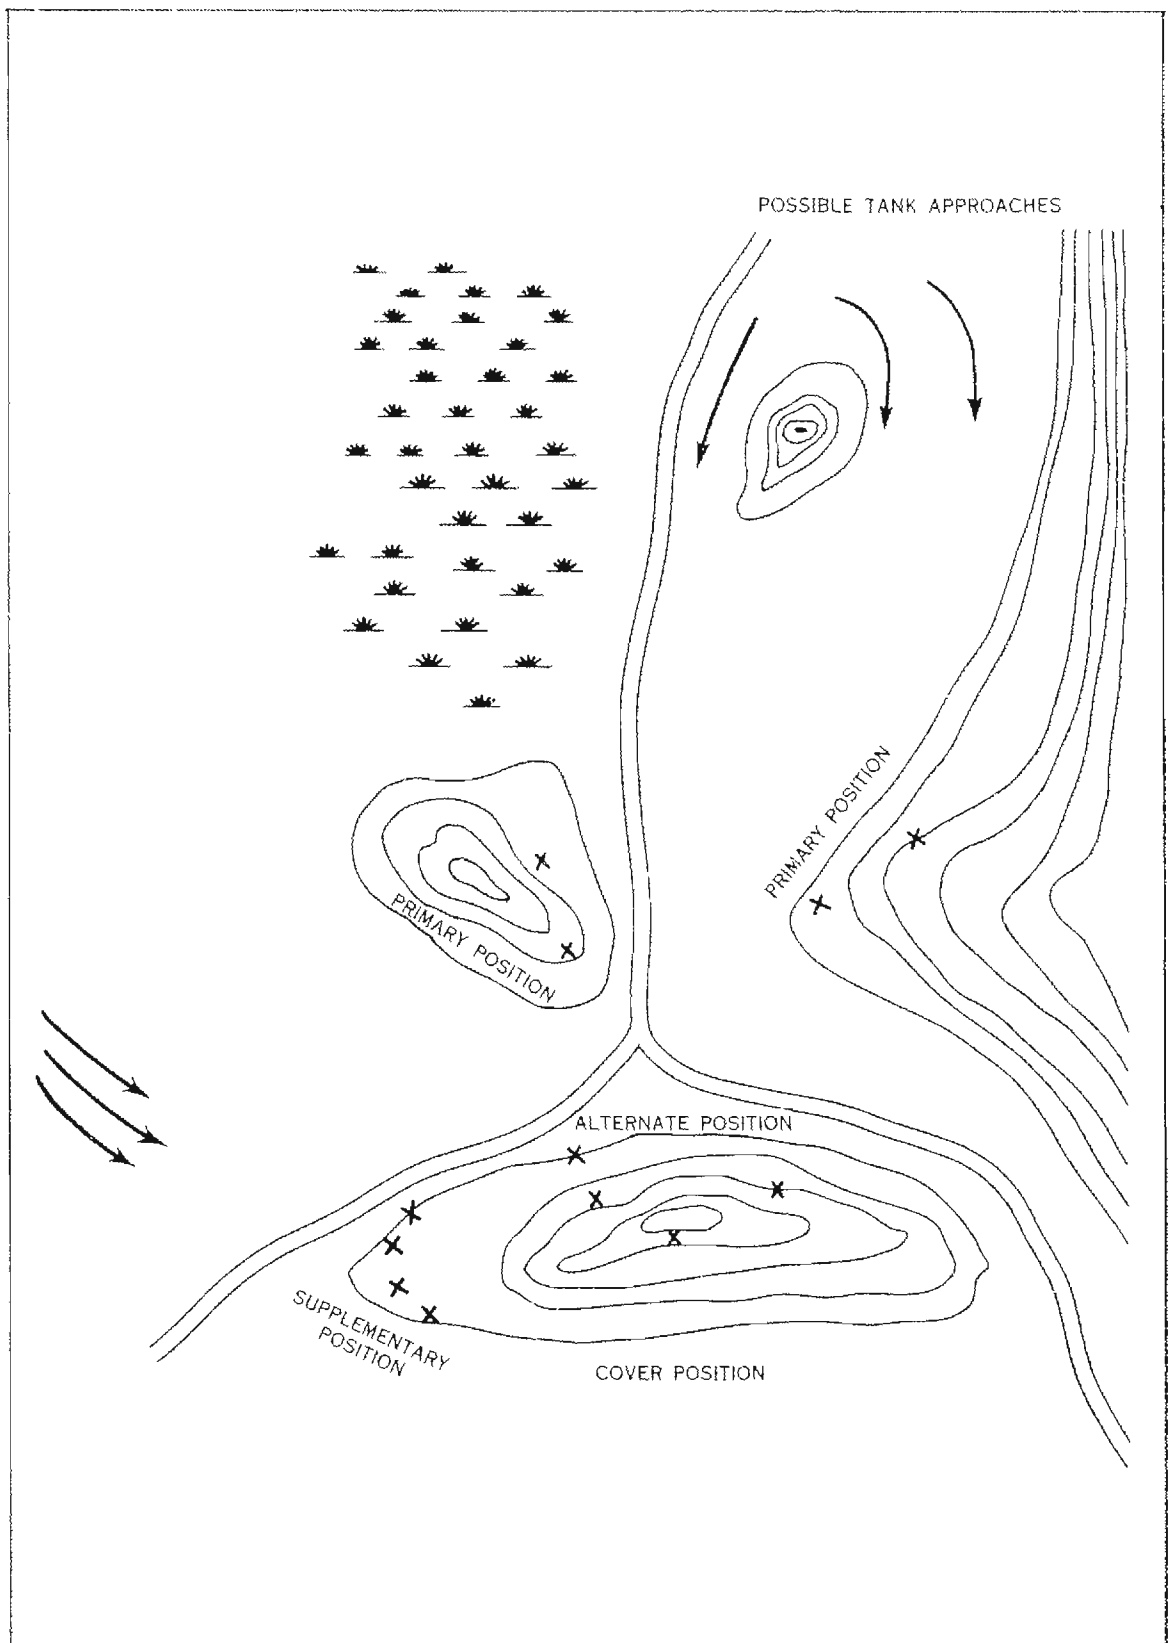

Figure 44
(1) Fire position.--Fire positions are occupied by destroyers in action to cover by fire an assigned sector or avenue of approach. Fire positions are primary, alternate, or supplementary. The primary fire position is the position from which a unit or weapon executes its primary mission. An alternate fire position is a position from which the same fire missions can be executed as from the primary fire position. A supplementary fire position is a fire position from which a destroyer can accomplish fire missions other than those to be accomplished from primary or alternate positions. (figure 44)
(2) Cover position.--A cover position is one in the immediate vicinity of the fire position providing concealment and protection to